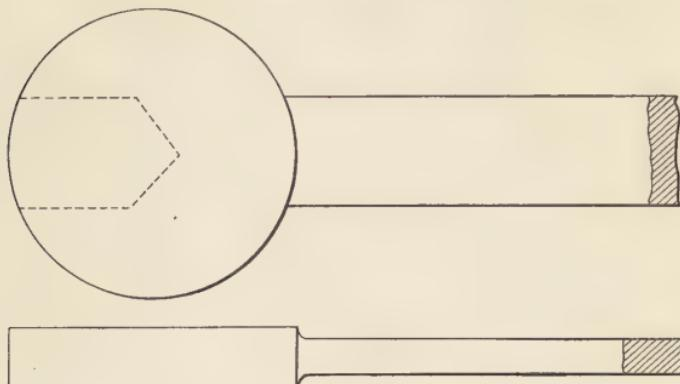

Fig. 25
**Open End Wrench.**—In making an open end or S wrench, it is the usual practice to draw out the handle and round up the end as in Fig. 25, and then cut out the opening to the size wanted as indicated by the